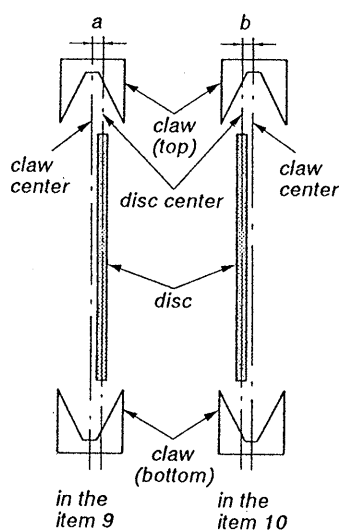

Fig. 4
9. Push the carrier bearing position gradually to left by hand as following figure. When the vibration caused by the carrier motor starting to rotate is felt, gradually return it to right. When the carrier motor stops rotating, let go of the carrier gently. At this time, check the position of two claws on the top and the bottom of the carrier arm. (See Fig. 4)
10. Pull the carrier plate ass'y gradually to right by hand as following figure. When the vibration caused by the carrier motor starting to rotate is felt, gradually return it to right. When the carrier motor stops rotating, let go of the carrier plate ass'y. At this time, check the position of two claws in the same manner as the item 9. (See Fig. 4)